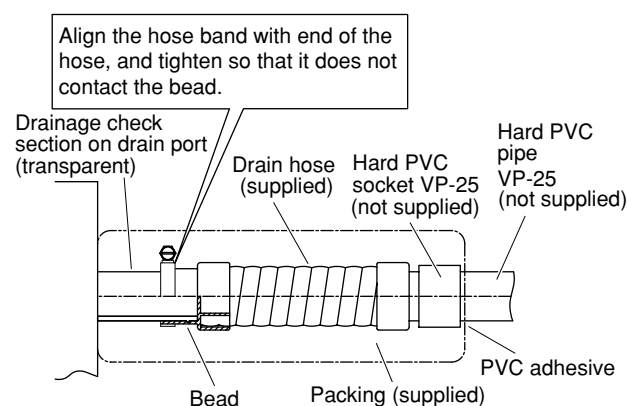

Fig. 3-10
The PVC pipe must be purchased separately. The unit's transparent drain port allows you to check drainage. (Fig. 3-10)
- Tighten the hose clamps so their locking nuts face upward. (Fig. 3-10)